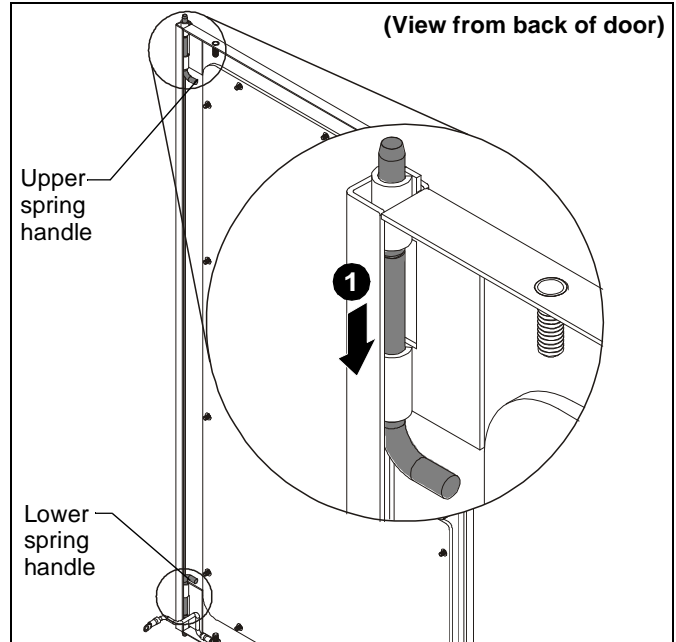

Figure 2
1. Pull down on upper spring handle, and push up on lower spring handle. (See Figure 2)